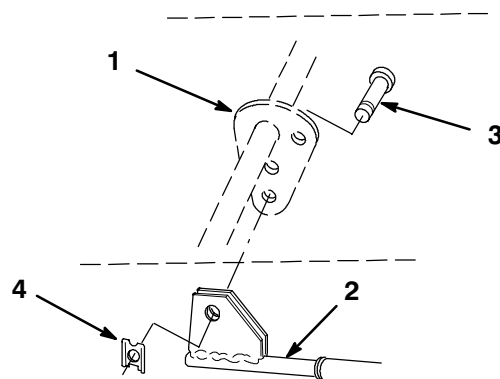

Figure 16
5. Disconnect the snowthrower lift rod from the attachment lift plate by removing the clip from the clevis pin (Fig. 16).